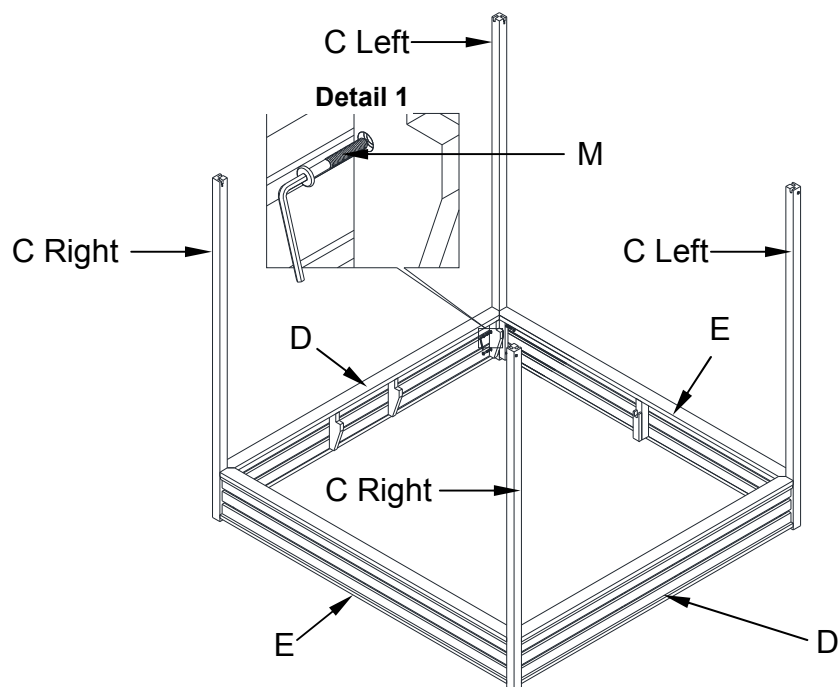

Fig. 3
3. Insert 4 pcs Long Allen Bolts (M) to assemble the Front Frame (D) & 4 pcs Allen Bolts (M) to assemble the Back Frame (D). Tighten with the supplied Allen Key (See **Fig. 3**) Detail 1.